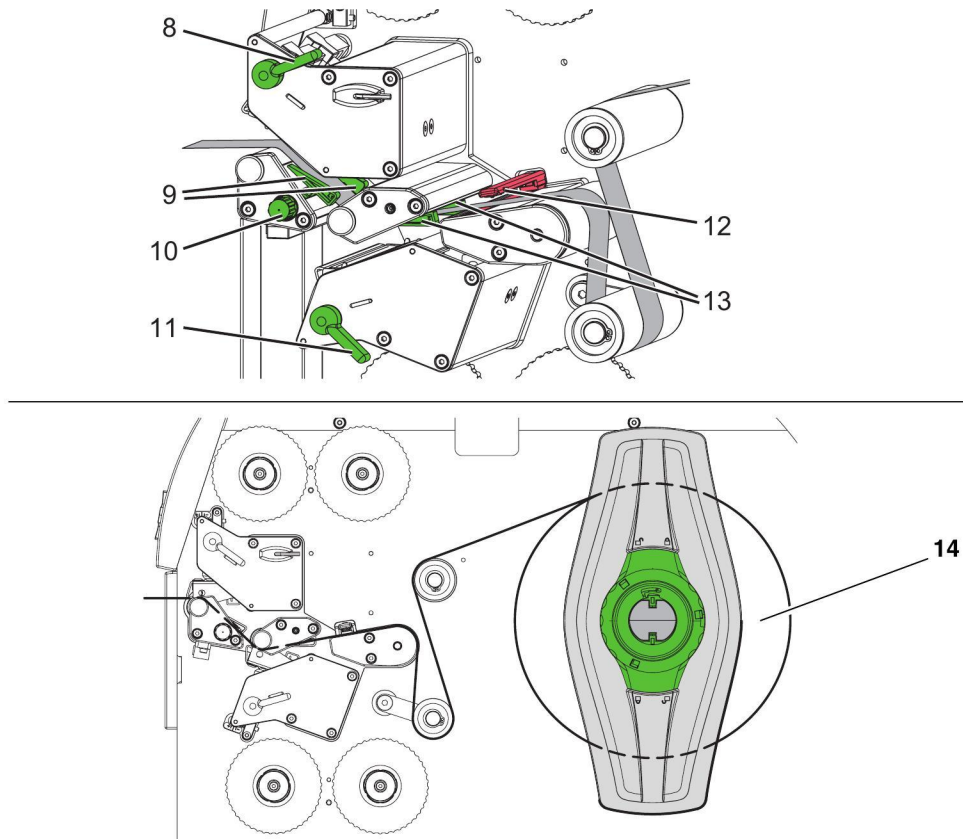

Figure 2-7 Loading the marker sleeve
- The printheads are still open after the ink ribbon has been loaded. Otherwise turn the lever (8) counter clockwise and the lever (11) clockwise to lift both printheads.
- Turning the button (10), move the guides (9 and 13) apart so that the marker sleeve can pass in between.
- As shown in Figure 2-7, guide the marker sleeve through both print units to the upper pressure roller and place it between the guides (9 and 13).
- Push the marker sleeve down in the guide (9) area and turn the button (11) to ensure that it is flush with the edge of the media.
- Turn the marker sleeve roll (14) to make the media taught.